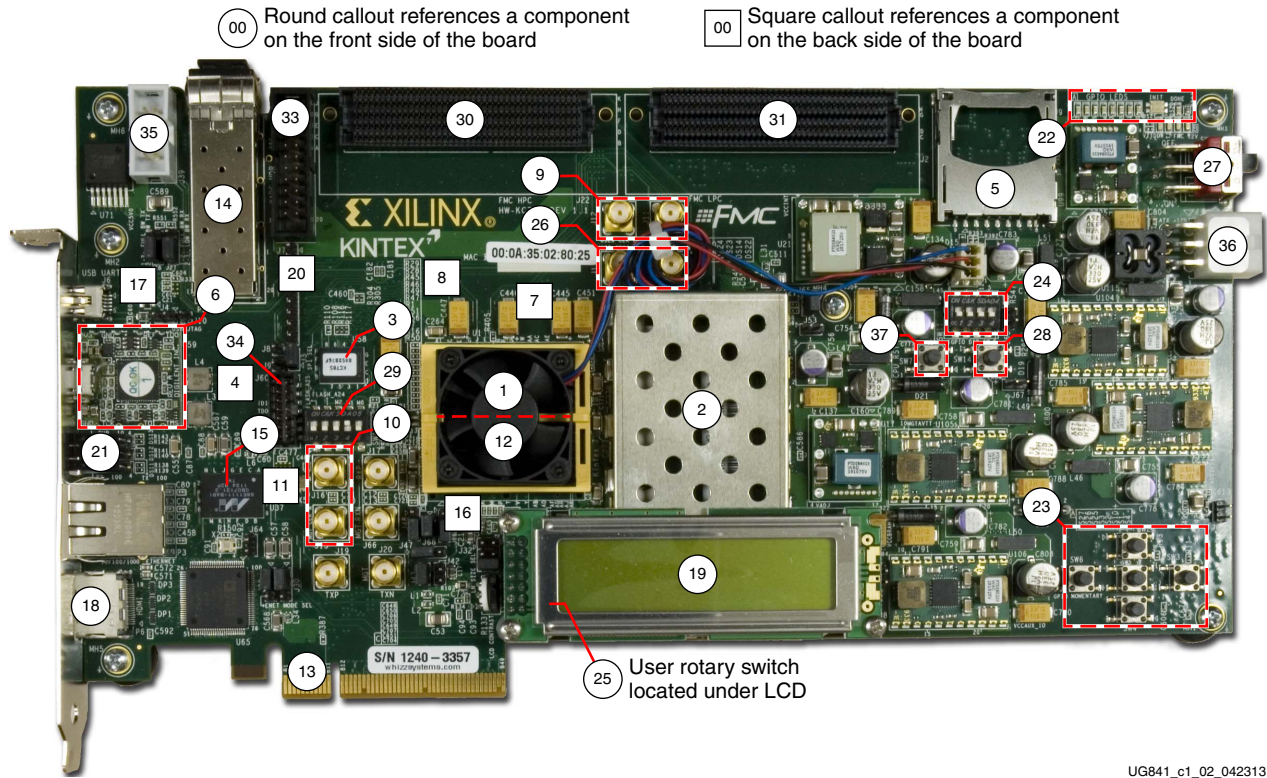

Figure 1-2: KC705 Board Components
The following figure shows the KC705 board. Each numbered feature that is referenced in Figure 1-2 is described in the sections that follow.
**Note:** The image in Figure 1-2 is for reference only and might not reflect the current revision of the board.
[Figure 1-2, callout 1]
[Figure 1-2, callout 2]